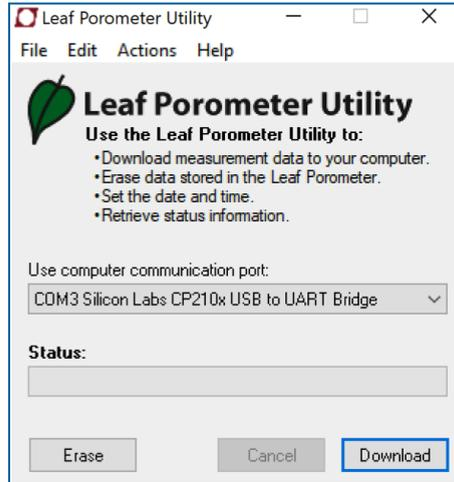

Figure 19 Leaf Porometer Utility main window
- Choose the appropriate communication port from the from the Use computer communication port dropdown on the main window (Figure 19).